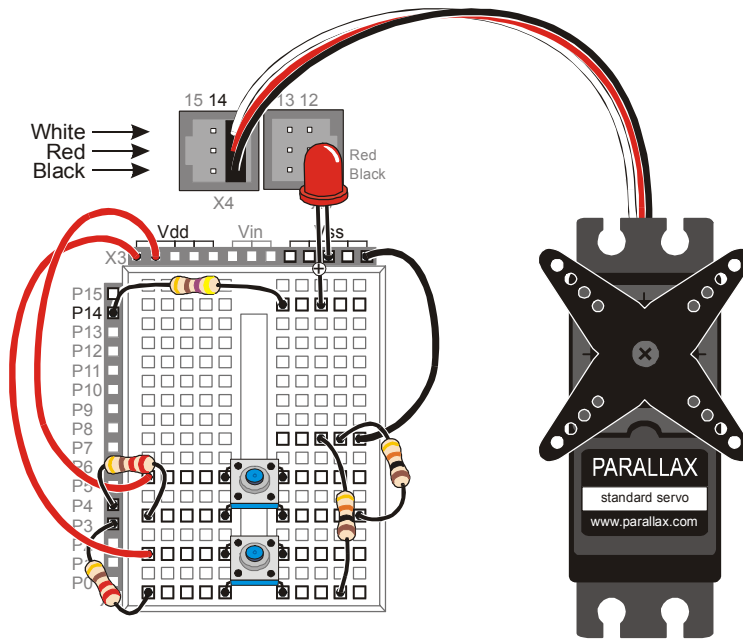

Figure 4-23
- Figure 4-23 if you are using the Board of Education Rev B